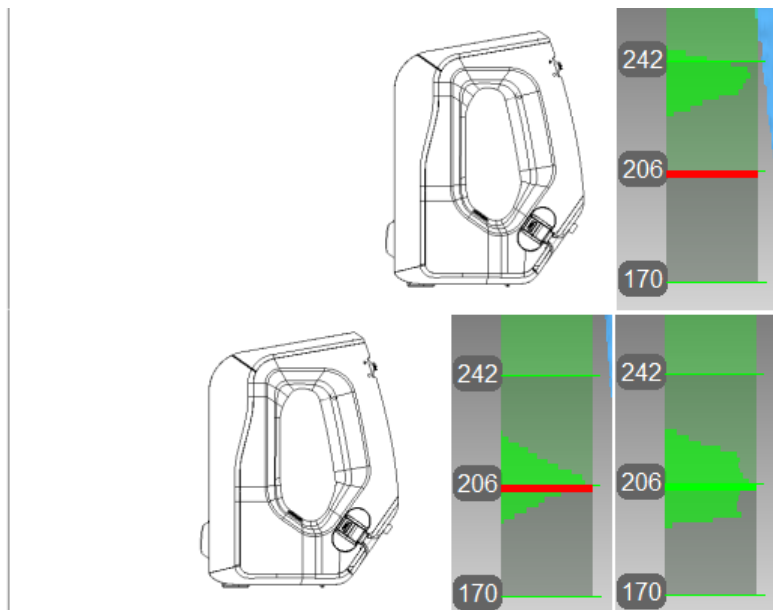

Figure 11.4.: Artec Spider scanner's position and corresponding distance on the range meter.
7. Move the scanner smoothly toward the flat surface such that the histogram peak coincides with the red mark on the range meter (see Figure 11.4.).